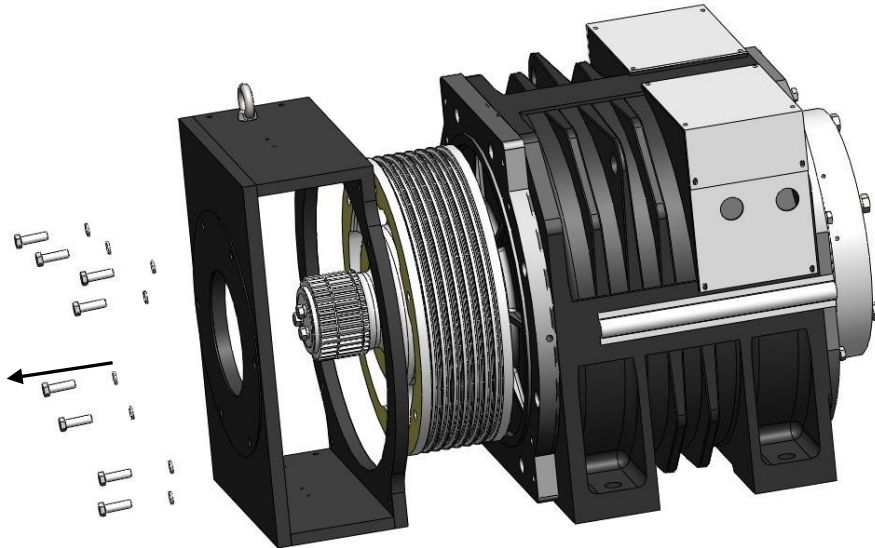

Figure 55: Sheave Removal
2. Hoist lightly the brake frame with the hoist chain, remove the screws M12 with open end wrench (18mm); hoist out the brake frame. See Figure 55.